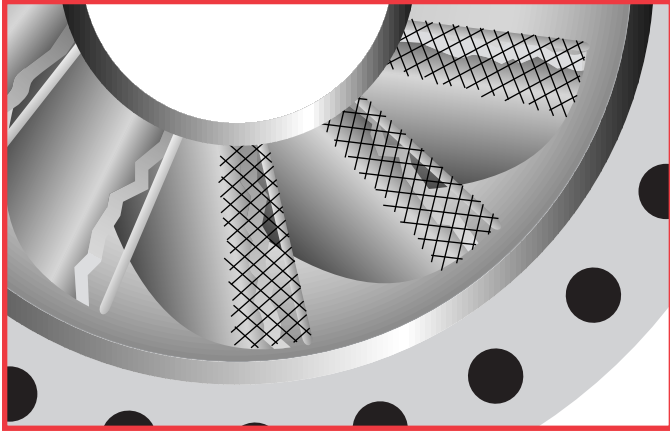

Figure 42. Expanded metal, used over damaged blades, rebuilds and reinforces the repair area.
2. **For severely eroded blades**, tack weld expanded metal from the edge to be rebuilt to the existing metal surface. (See figure 42)